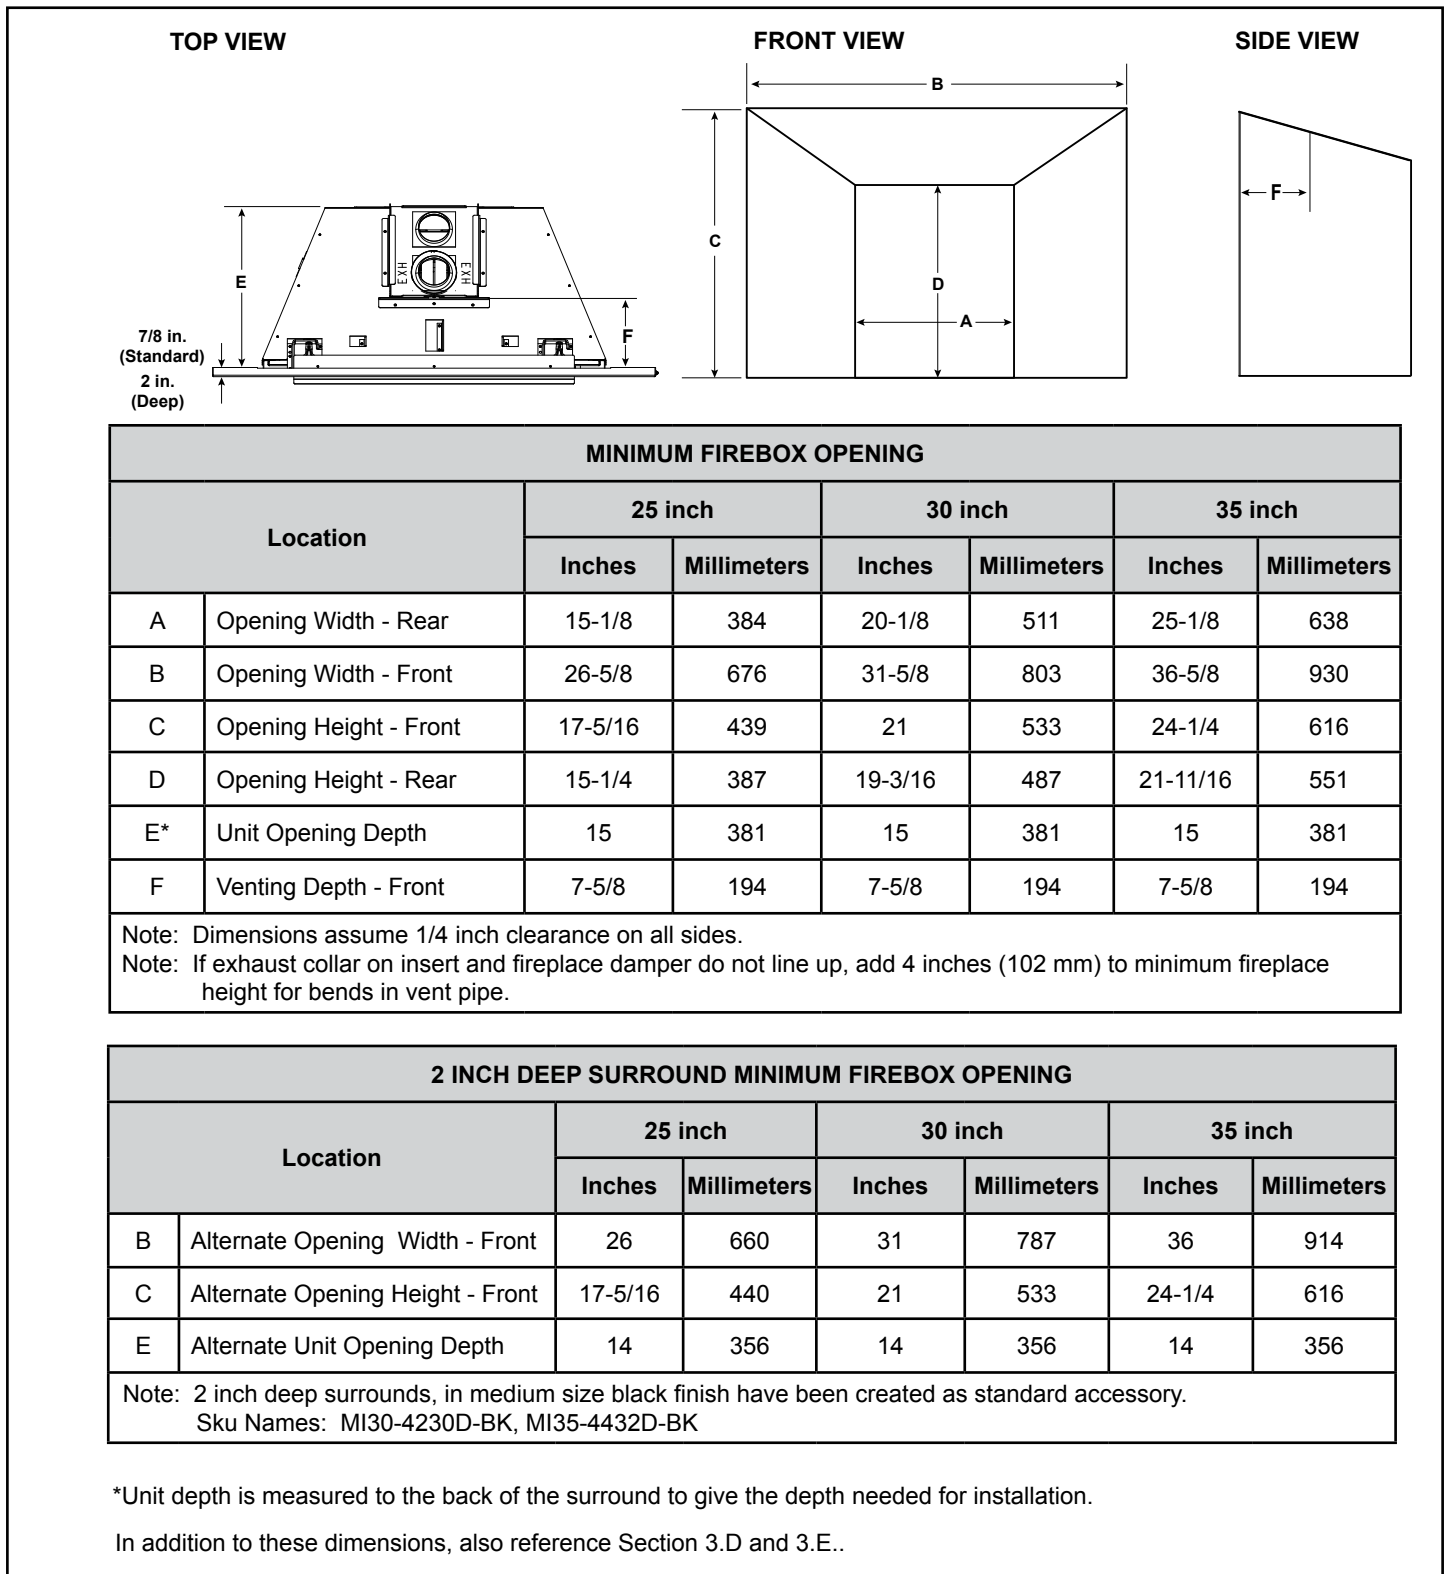

Figure 3.8 Firebox Opening - Standard Surround - 3/4 in.
***Note:** Location G is the appliance depth measurement, for installation depth reference Location E on Figure 3.8.